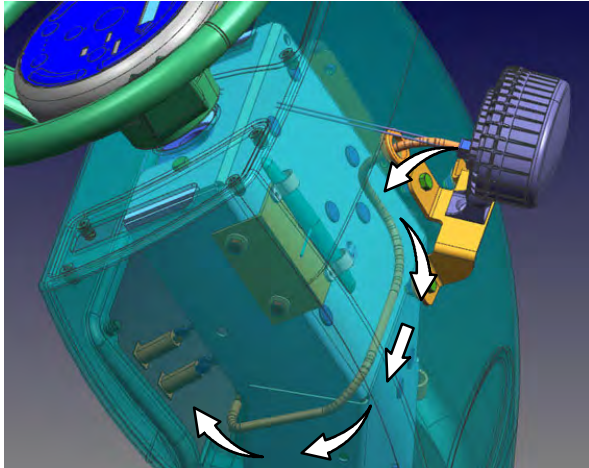

FIG. 7
8. Remove the nut from the sealed chord grip on the blue spotlight harness (3). (Fig. 7)
12. Route the blue spotlight harness (3) between the front shroud and steering channel, around the right side of the steering channel, and to the circuit breakers located on the electrical panel. (Fig. 7)